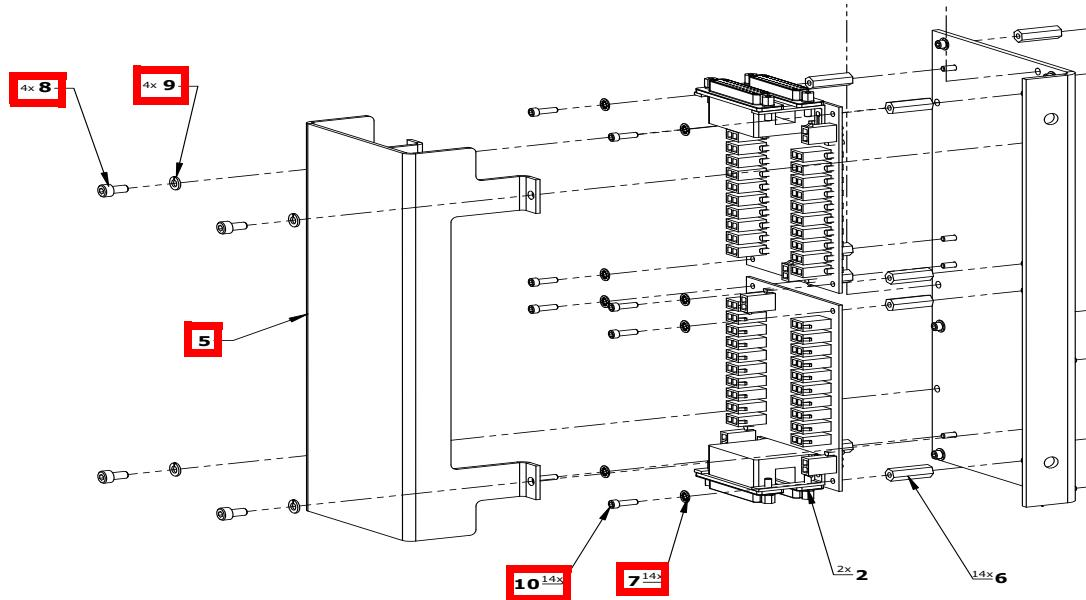
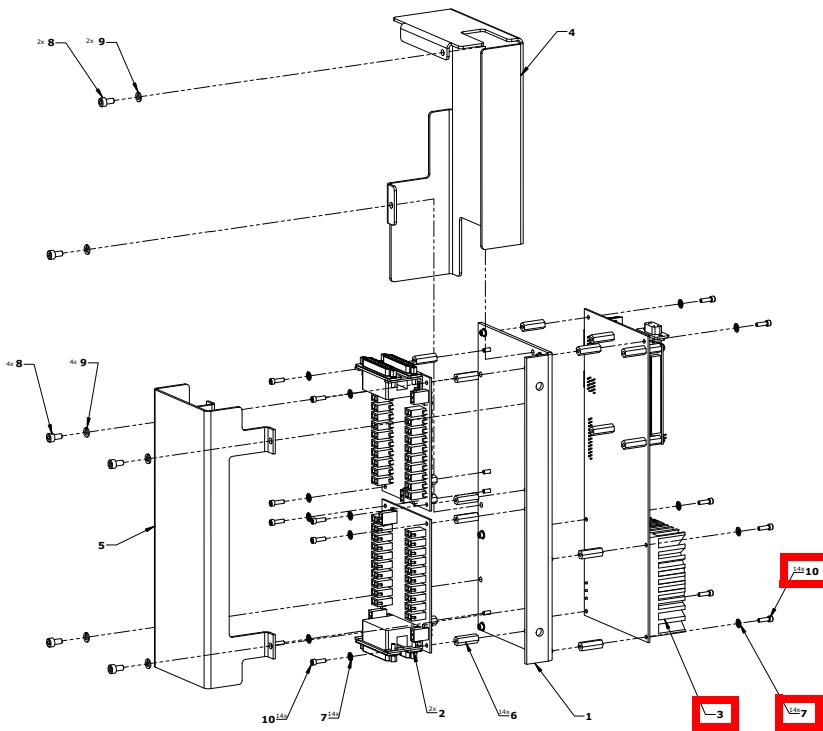

Figure 5-12
Figure 5-15
- See Figure 5-12. Remove RTB Slave Cover (5252403, Item 5) by removing four (4) 4mm socket screws (2109867-2, Item 8) and four (4) lock washers (2109880-2, Item 9). Set aside.
See Figure 5-12 to Figure 5-15.
1. See Figure 5-12. Remove RTB Slave Cover (5252403, Item 5) as described in 5.3.2.
6. See Figure 5-15. Remove six (6) #4-40 socket screws (46-260789P11, Item 10) and six (6) internal tooth lock washers (2390666-2, Item 7) for each. Set hardware aside. Do not remove standoffs from Assembly. Remove defective Real Time Bus Master PCB (Item 3).